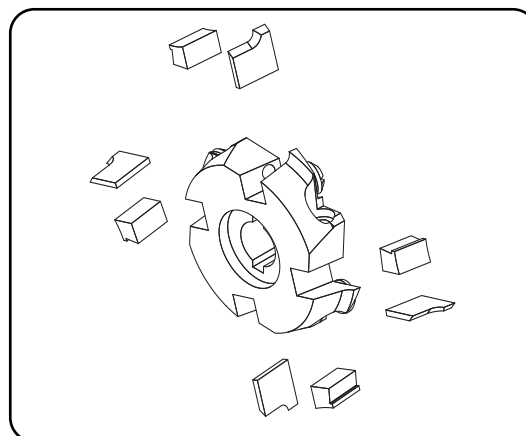

fig. 3.7.9
- to substitute the knives use the key supplied with standard equipment and substitute the knives as indicated in fig. 3.7.9.